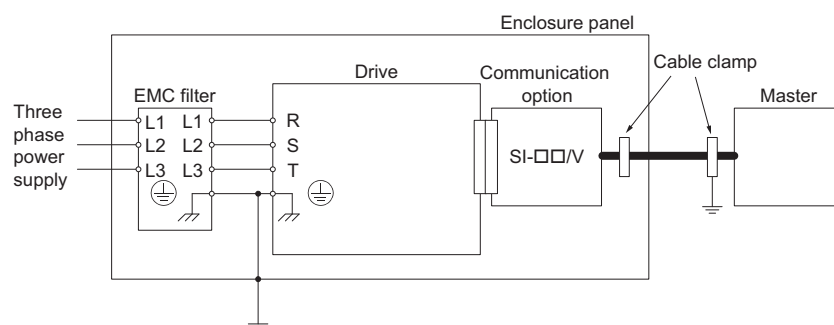

Figure 24 CC-Link Option Installation for CE Compliance
2. Keep wiring as short as possible and ground the largest possible surface area of the shield to the metal panel according to Figure 24.